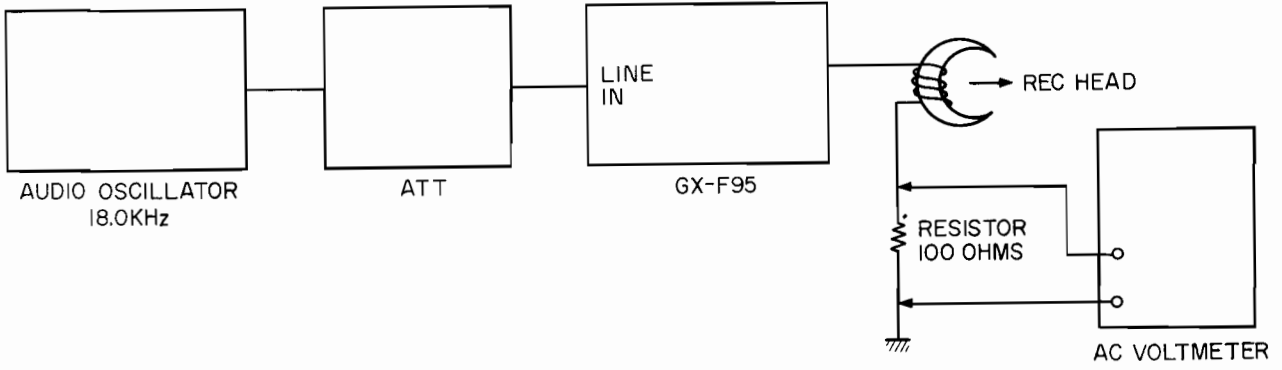

Fig. 65 Instruments Connection
6. Stop the recording bias oscillator while making record peaking adjustment (Refer to Figs. 65, 66).